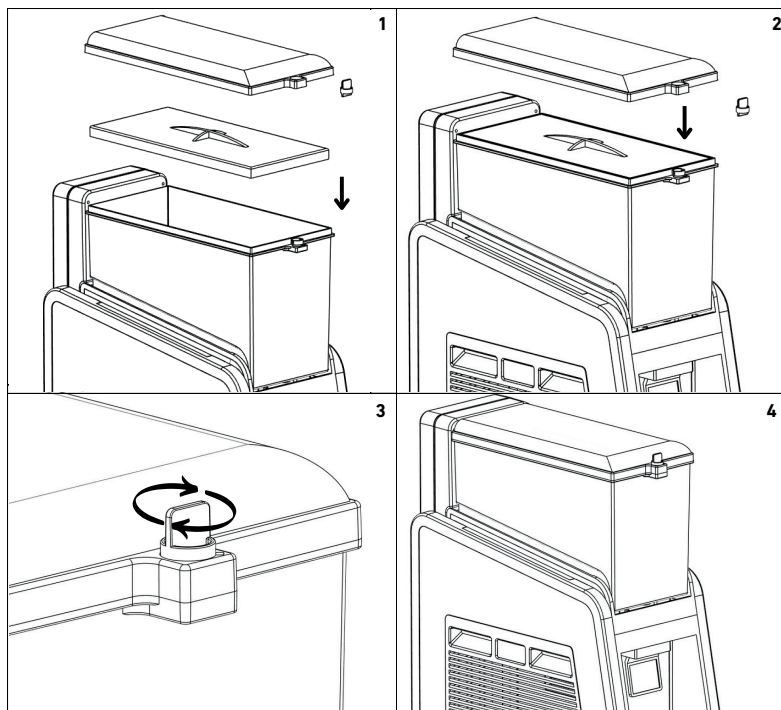

Figure 33
22.6.4. The sequence of lid assembly is shown in Figure 33.